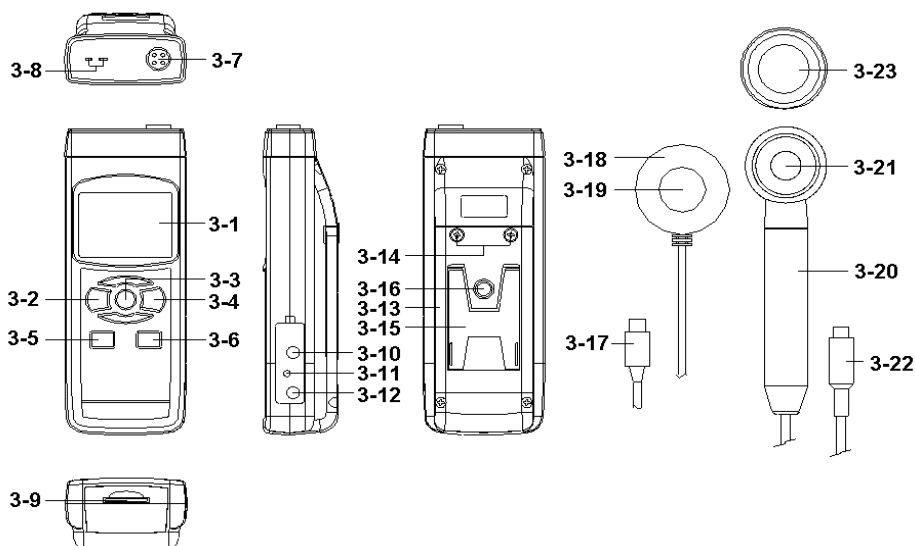

Fig. 1
1) Turn on the meter by pressing the " Power Button " (3-2, Fig. 1) momentarily.
** Pressing the " Power Button " (3-2, Fig. 1) continuously and > 2 seconds again will turn off the meter.*
Pressing the " Function Button " (3-3, Fig. 1) continuously (not release the button), the Display will show the following text in sequence :
Until the Display show the desired mode (Function), just release the " Function Button " (3-3, Fig. 1), the meter will execute this function with default.
- b. Install the " UVA Probe Plug " (3-22, Fig. 1) into the " Probe Input Socket " (3-7, Fig. 1).
- c. Power on the meter by pressing the " Power Button " (3-2, Fig. 1). The display will show the " mW/cm^2 " unit. Now the meter is ready for making the UVA light measurement.
- d. Use the fingers to hold the " Sensor Handle " (3-20), face the " UVA Sensor " (3-21, Fig. 1) against to the measurement UVA light source directly. The display will show the UVA light measurement value.
During the UVA measurement, if blank the UVA Sensor (3-21, Fig. 1) by " UVA Sensor Cover " (3-23 , Fig. 1), the Display not show zero value, press the " Zero Button, Logger Button " (3-6, Fig. 1) > 3 seconds, Display will show zero value. Upon completion, remove the sensor cover.
- b. Install the " UVC Probe Plug " (3-17, Fig. 1) into the " Probe Input Socket " (3-7, Fig. 1).
- c. Power on the meter by pressing the " Power Button " (3-2, Fig. 1). The display will show the " mW/cm^2 " unit. Now the meter is ready for making the UVC light measurement.
- d. Use the fingers to hold the " UVC Sensor body " (3-18), face the " UVC Sensor " (3-19, Fig. 1) against to the measurement UVC light source directly. The display will show the UVC light measurement value.
During the UVC measurement, if blank the UVC Sensor (3-19, Fig. 1) , the Display not show zero value, press the " Zero Button, Logger Button " (3-6, Fig. 1) > 3 seconds, Display will show zero value. Upon completion, remove the sensor cover.
- b. Not install the " Probe Plug " (3-17, 3-22 Fig. 1) into the " Probe Input Socket " (3-7, Fig. 1).
- c. Plug the Thermocouple Temp. Probe (Type K Temp. probe pr Type J Temp. probe, optional) into " Type K/J Probe Input Socket " (3-8, Fig. 1)
During the measurement, press the " Hold Button " (3-3, Fig. 1) once will hold the measured value & the LCD will display a " HOLD " symbol.
- 1) The data record function records the maximum and minimum readings. Press the " REC Button " (3-4, Fig. 1) once to start the Data Record function and there will be a " REC. " symbol on the display.
- a) Press the " REC Button " (3-4, Fig. 1) once, the " REC. MAX. " symbol along with the maximum value will appear on the display.
If intend to delete the maximum value, just press the " Hold Button " (3-3, Fig. 1) once, then the display will show the " REC. " symbol only & execute the memory function continuously.
- b) Press the " REC Button " (3-4, Fig. 1) again, the " REC. MIN. " symbol along with the minimum value will appear on the display.
If intend to delete the minimum value, just press the " Hold Button " (3-3, Fig. 1) once, then the display will show the " REC. " symbol only & execute the memory function continuously.
After power ON, the " LCD Backlight " will light automatically. During the measurement, press the " Backlight Button " (3-2, Fig. 1) once will turn OFF the " LCD Backlight ".
Prepare a " SD memory card " (1 G to 16 G, optional), insert the SD card into the " SD card socket " (3-9, Fig. 1). The front panel of the SD card should face against the the down case.
Press the " REC Button (3-4, Fig. 1) once , the LCD will show the text " REC ", then press the " Logger Button " (3-6, Fig. 1), the " REC " will flashing, at the same time the measuring data along the time information will be saved into the memory circuit.
During execute the Datalogger function , if press the " Logger Button " (3-6, Fig. 1) once will pause the Datalogger function (stop to save the measuring data into the memory circuit temporally). In the same time the text of " REC " will stop flashing.
If press the " Logger Button " (3-6, Fig. 1) once again will execute the Datalogger again, the text of " REC " will flashing .
During pause the Datalogger, press the " REC Button " (3-4, Fig. 1) continuously at least two seconds, the " REC " indication will be disappeared and finish the Datalogger.